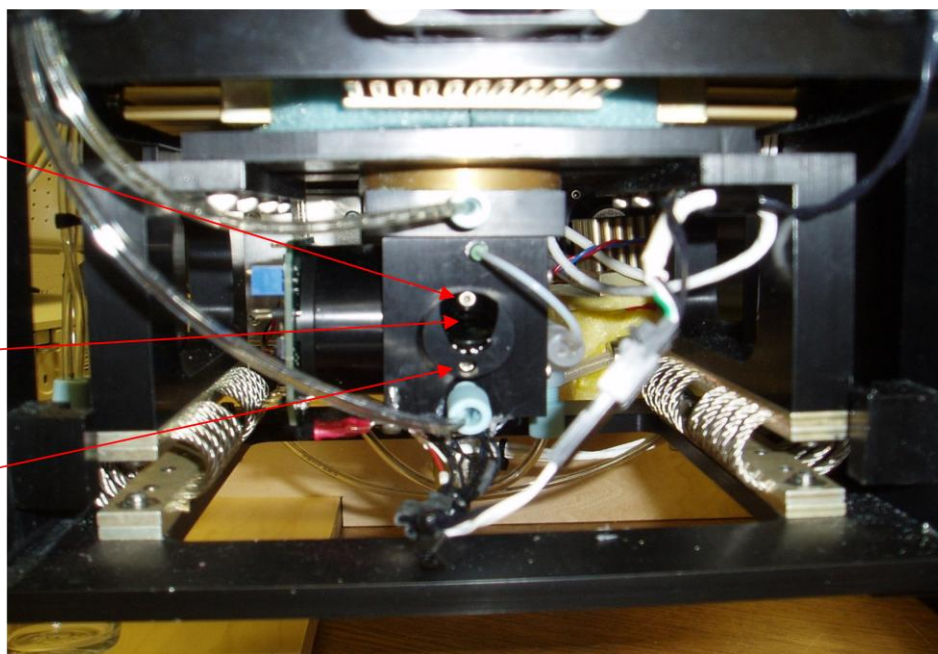

Figure 18: OPC Mounting Location on Column
2. Remove the two 2-56 screws holding the Beam Dump to the OPC block (Figure 18).ⁱⁱ